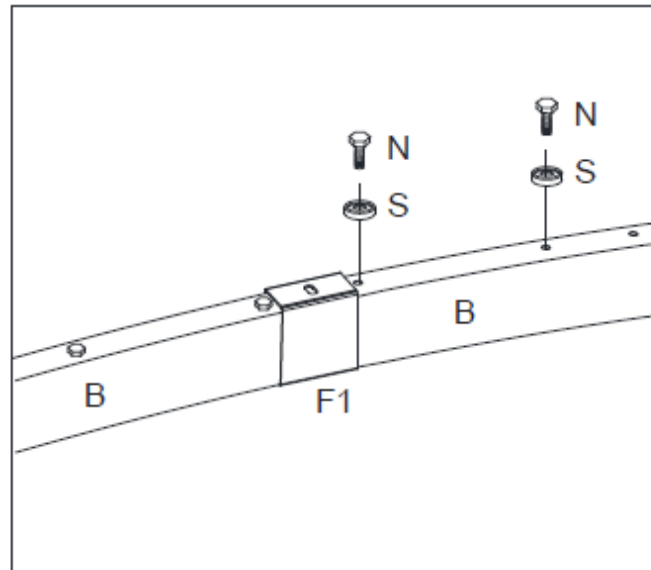

Figure 4-3
Step 4C: Attach the opposite Curved Top Beam (B) to the Cross Beam Center Connector Plate (E) with Bolts (N) and Plastic Washers (S). **Tighten Bolts.** See Figure 4-3.